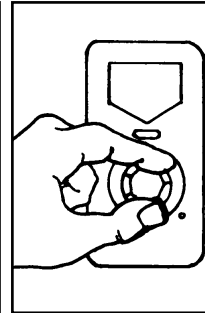

Figure 6
4. Set thermostat knob to OFF position and then remove knob by lifting knob from shaft. (See Figure 6)